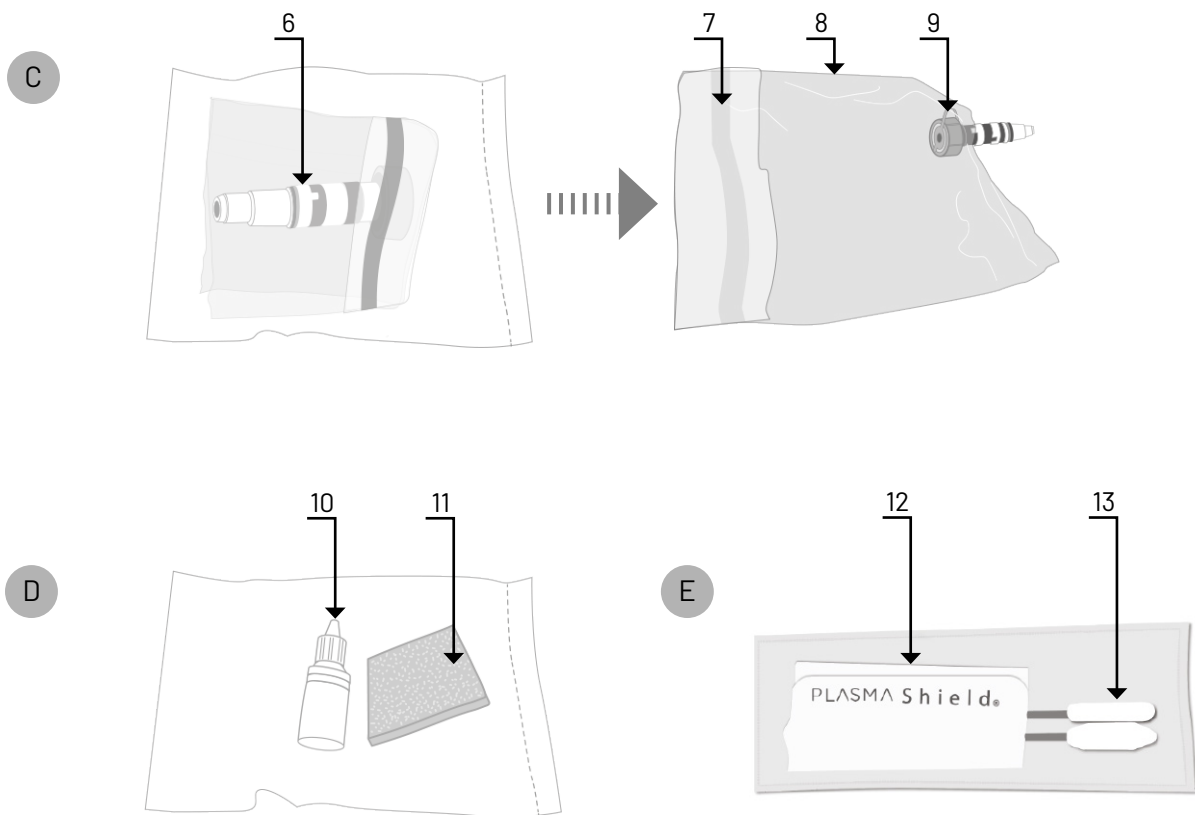

Fig. 3 (PLASMAshield Disposable, Anti-Fog Solution, and Trocar and Scope Cleaning Set)
For 10 mm scopes, remove the 5 mm Scope Adapter from the Disposable. For 5 mm scopes, use the Adapter (see Fig. 3, C-9).
3. Cover the Base completely by removing the Drape Adhesive Tape (see Fig. 3, C-7) liner and taping the Drape closed.
5. Open the Anti-Fog Solution and Sponge pouch (see Fig. 3, D) in the sterile zone. Remove the adhesive tape liner and stick the Sponge onto the Base Drape above the Disposable, making sure not to cover the Display Screen with the Sponge.
6. In case there is a need for reactivation during surgery, first wipe the scope with the cleaning cloth and/or swabs (see Fig. 3, E-12 / 13) and then perform the lens activation.